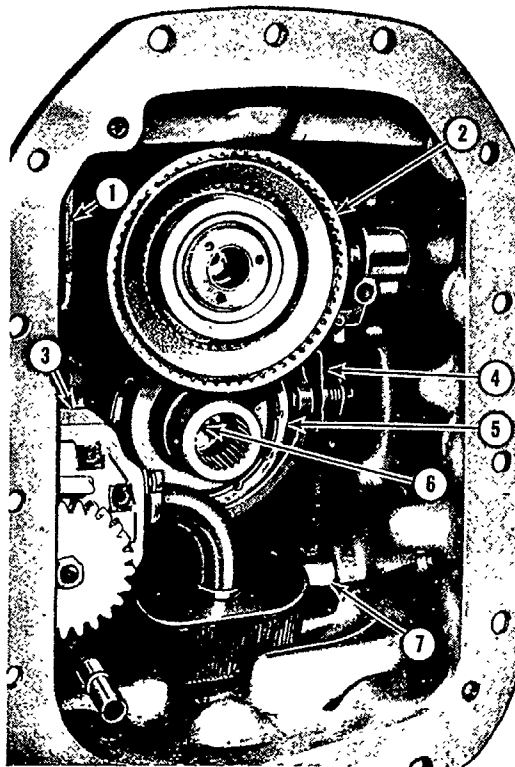

Figure 20
4. Disconnect the strut from the Load Monitor fork lever, Figure 20, by removing the cotter pin.
6. Remove the P.T.O. clutch and control valve, Figure 20, as described in Part 9, "Power Take-Off"
8. Remove the hydraulic pump and suction screen assembly, Figure 20, as described in Part 11, "Hydraulics."
9. Remove the Load Monitor retaining bolt, Figure 20.